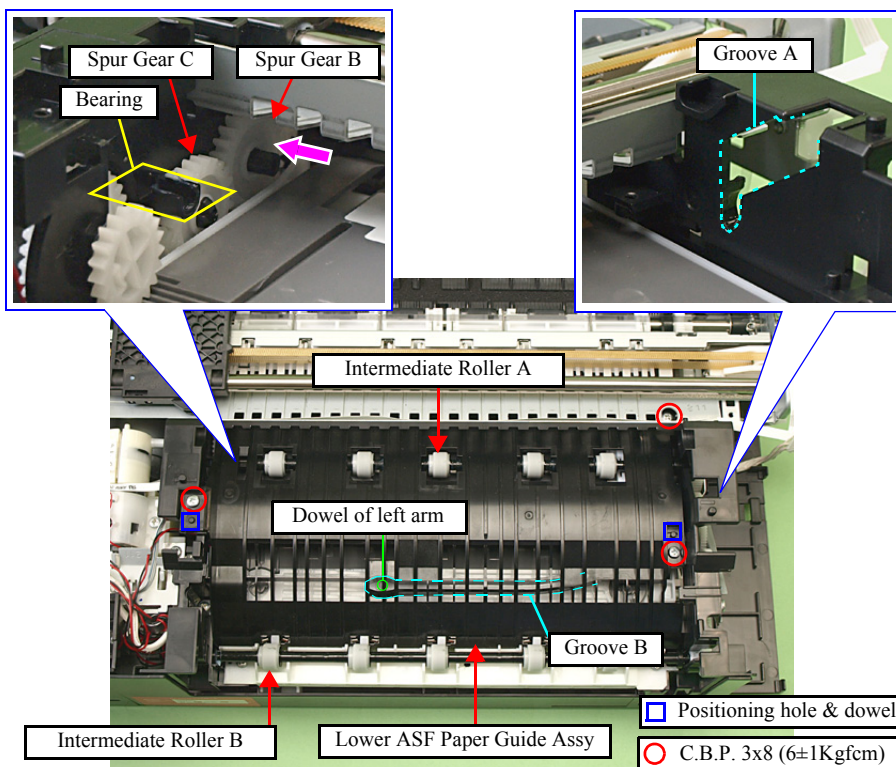
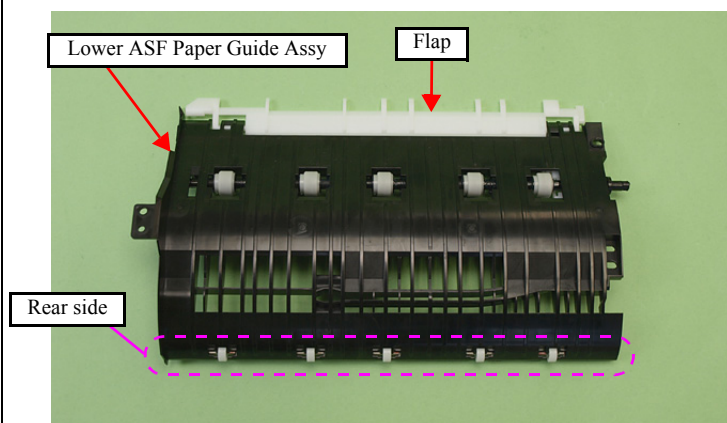

Figure 4-92. Removing the Lower ASF Paper Guide Assy (2)
Figure 4-96. Installing the Lower ASF Paper Guide Assy
2. Remove the screws (x3) that secure the Lower ASF Paper Guide Assy. (See Fig. 4-92.)
- Make sure to install the Lower ASF Paper Guide Assy while pressing the Spur Gear B in the direction of the arrow so as to engage it with the Spur Gear C. (See Fig. 4-92.)
- When installing the Lower ASF Paper Guide Assy, the tip of the flap is inserted between the CDR Tray Assy and the Upper Paper Guide. Take care not to damage the flap by getting contact with such parts then. (See Fig. 4-96.)
- Make sure to attach the Intermediate Roller A into the bearing on the Base Frame. (See Fig. 4-92.)
- Attach the rear side of the Lower ASF Paper Guide Assy so as to let its roller and the Intermediate Roller B touch. (See Fig. 4-92, Fig. 4-96.)
- Insert the dowel of the left arm of the CDR Tray Assy into the groove B on the Lower ASF Paper Guide Assy. (See Fig. 4-92.)
- Make sure to align the dowels (x2) of the Base Frame with the positioning holes (x2) of the Lower when reassembling them. (See Fig. 4-92.)